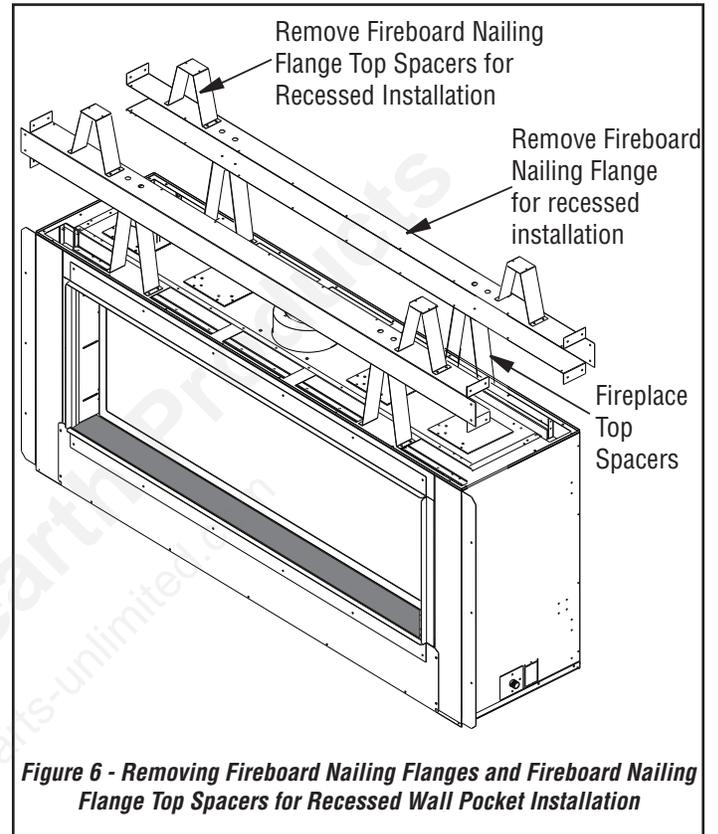

Figure 6 - Removing Fireboard Nailing Flanges and Fireboard Nailing Flange Top Spacers for Recessed Wall Pocket Installation
3. Headers may be in direct contact with the nailing flange top spacers, maintaining the 20-1/4" clearance to the fireplace top, but must not be supported by them or notched to fit around them. All construction above the fireplace must be self-supporting. **DO NOT** use the fireplace for structural support. **Note:** On a recessed wall pocket installation, discard fireboard nailing flange and nailing flange top spacers (see **Figure 6**, page 15). Header may be in direct contact with the fireplace top spacers maintaining the 10-1/4" clearance to the fireplace top.
Note: Remove Fireboard Nailing Flange and fireboard nailing flange top spacers for recessed installation (**Figure 6**).